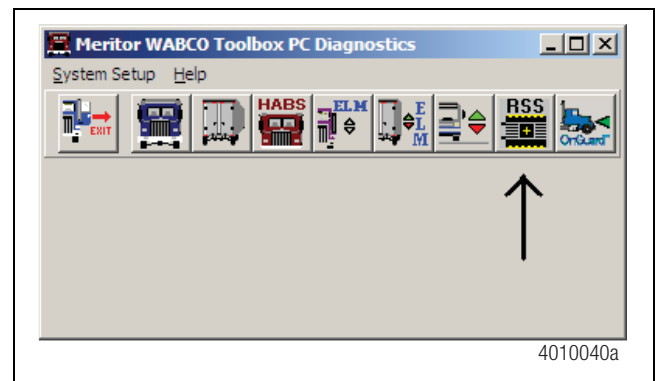

Figure 46
- Click the RSS icon. Figure 46.